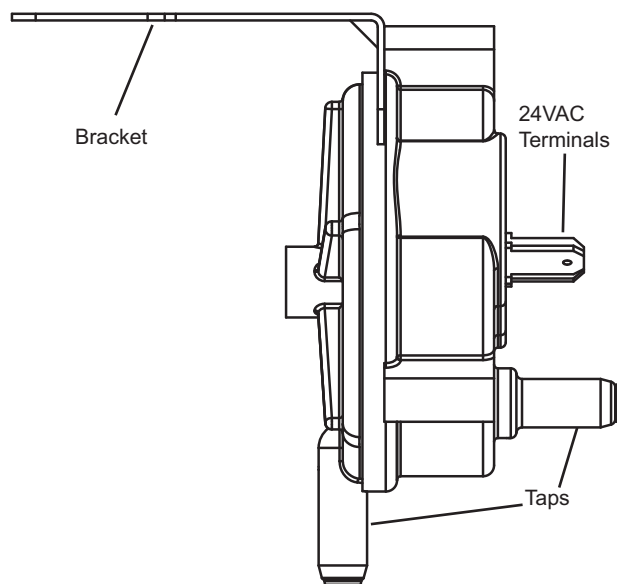

Figure 12. Pressure Switch
7. Combustion Air Pressure Switch (Figure 12)